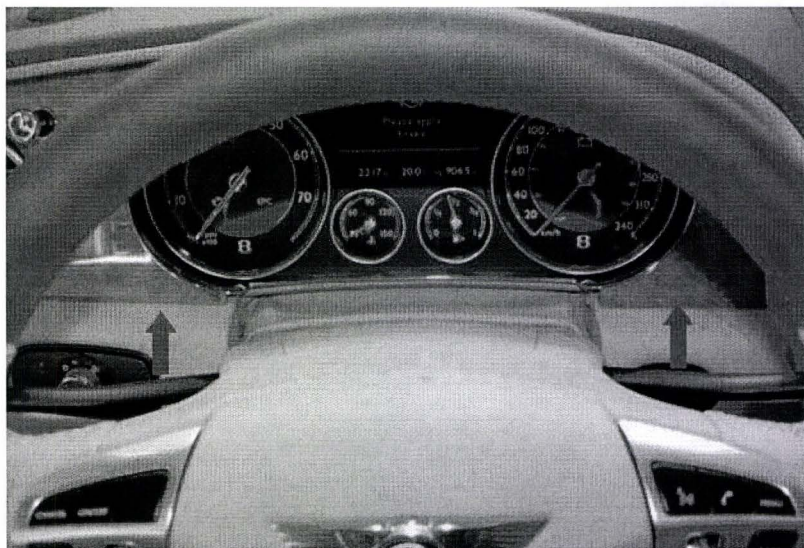

Figure 2
2. With extreme care, push the multi-function switch forwards to its natural resting position using the gear selector paddles (Figure 2) **IMPORTANT:** Do not force the switch over its natural resting position.